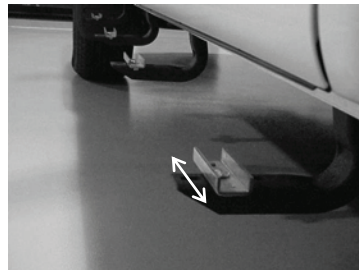
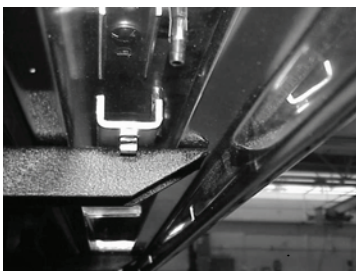

Fig. 5
Fig. 6
- ⚠ (a) Lift and rotate the Pinch Clips 90 degrees so that they are perpendicular to the Brackets. (Fig.5)
- (1) Left (Driver Side) Board is marked with an **Orange** sticker.
- (c) Carefully lower the board so that the Pinch Clips rest in the channel in the bottom of the Stealth Board. (Fig.6)